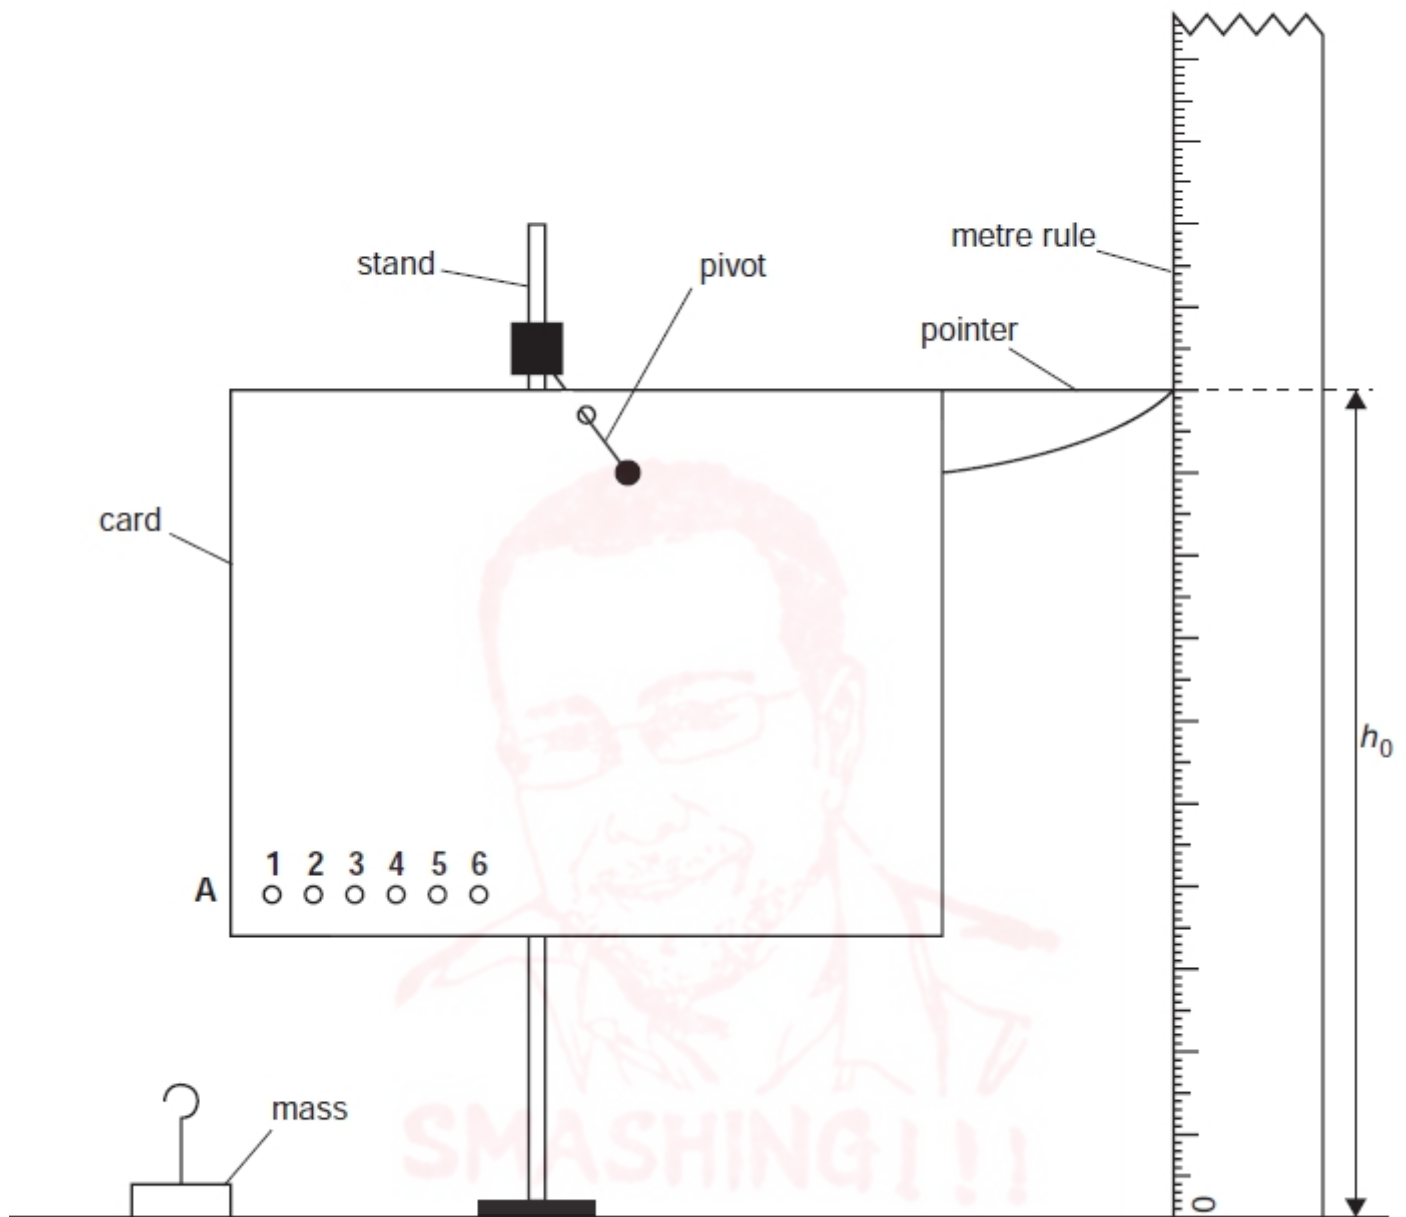

Fig. 2.1
Fig. 2.1 shows the apparatus drawn full size.
- (a) On Fig. 2.1 measure the distance  $d$  between the centre of the hole labelled **1** and the edge of the card at **A**. Record this value in the table.
- (c) On Fig. 2.1 measure the height  $h_0$  of the pointer above the bench.